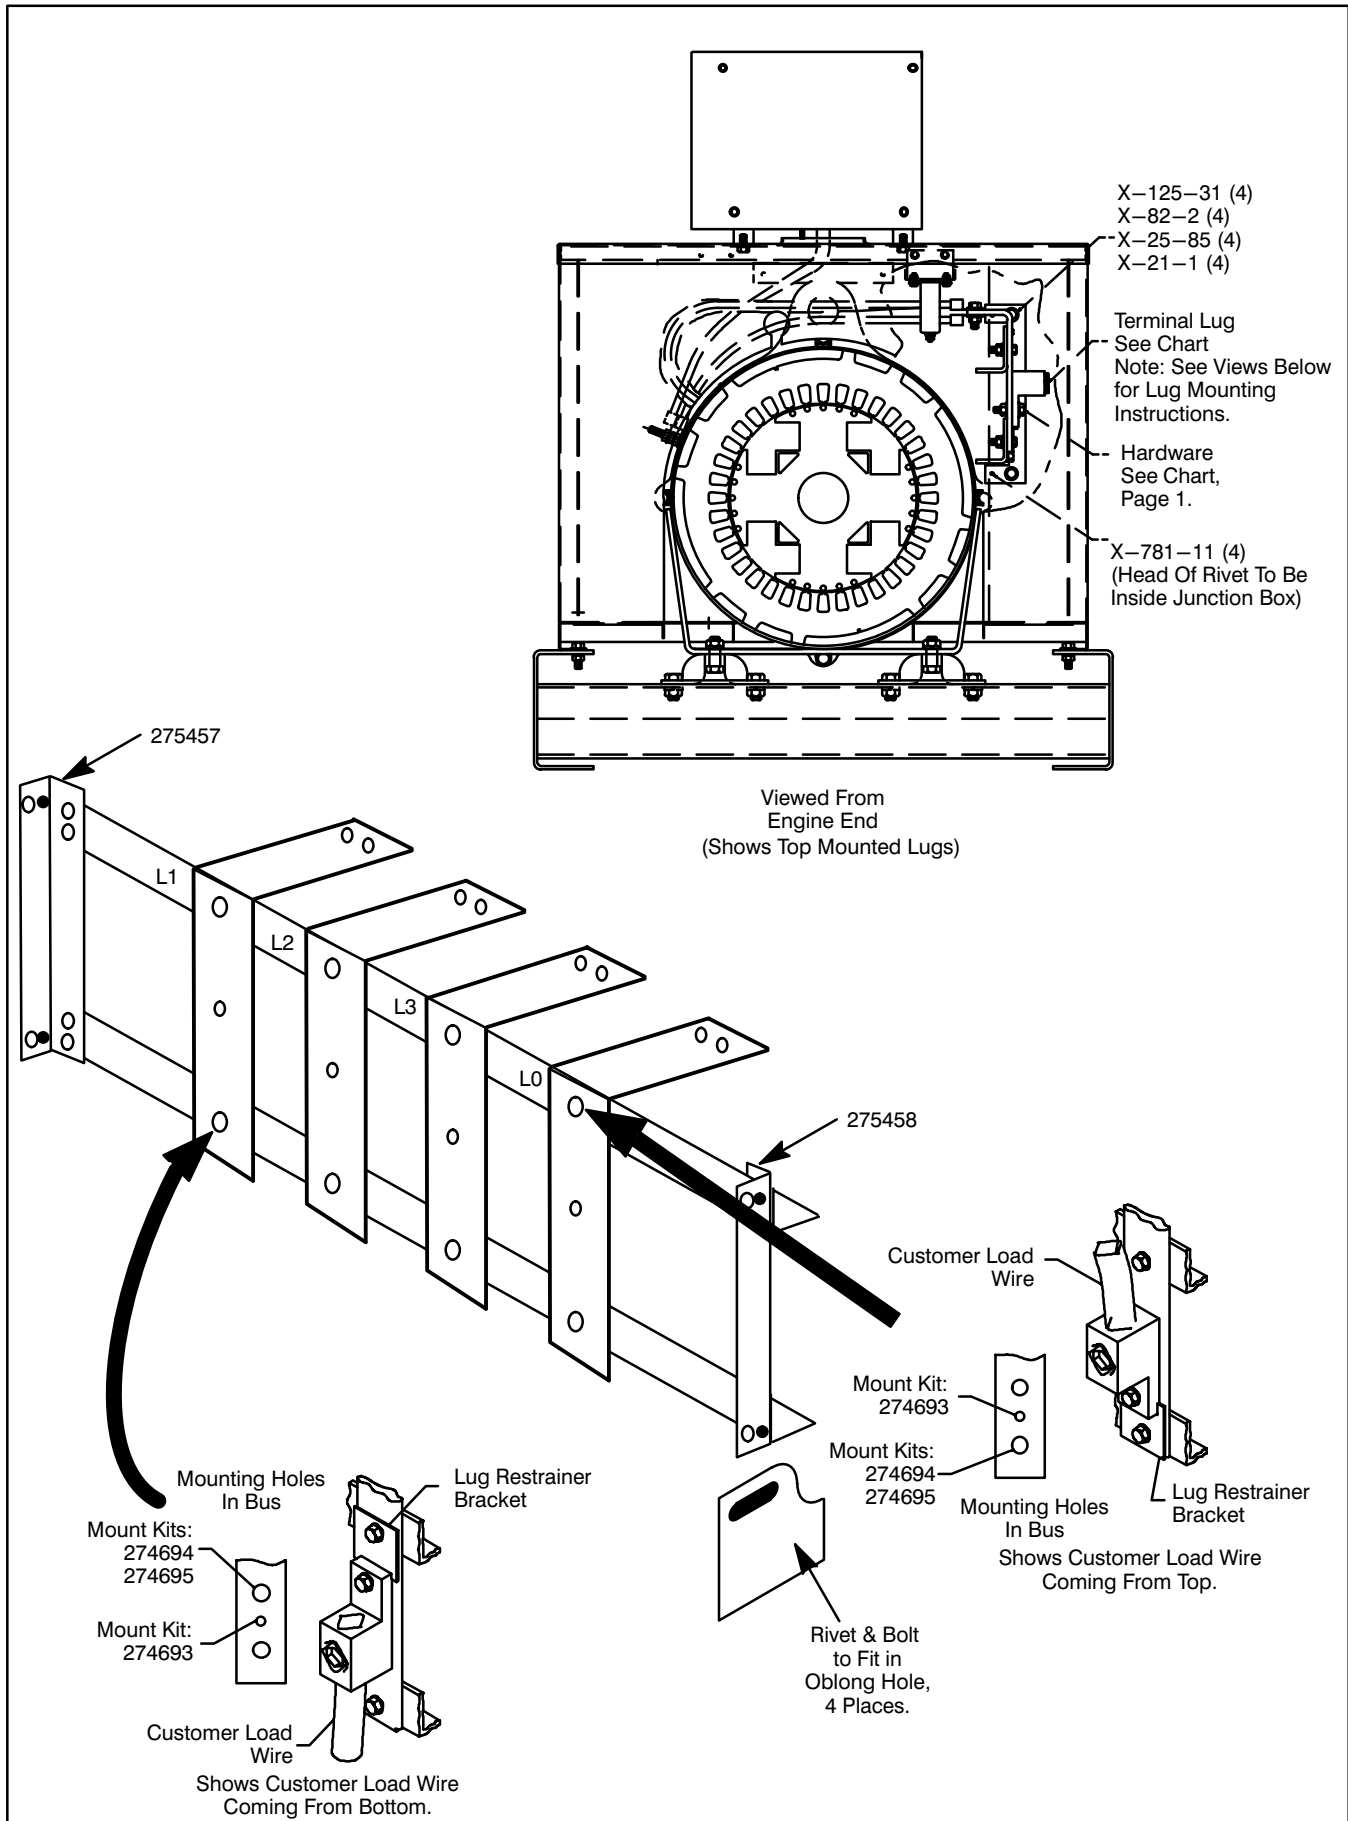

Figure 1. Assembly
3. Mount terminal lugs to the bus bars in either upper, middle or lower, position as shown in Figures 1 and 2.